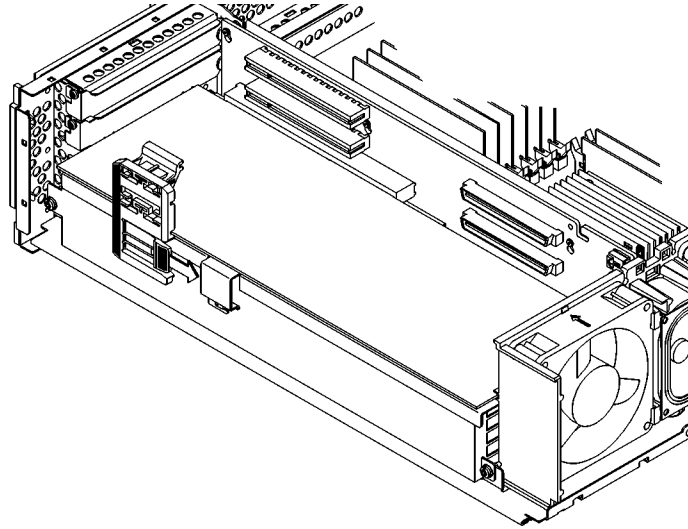

Figure 56
- 7 Place the option board support bracket over the edge of the option board and slide it into the slot on the power supply until the locking tab snaps into place, as shown in Figure 56.